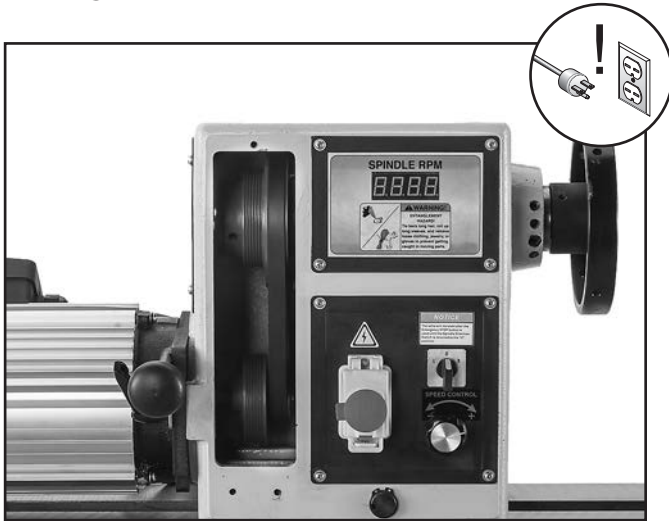

Figure 62. Belt access panel removed.
2. Open the front belt access panel, as shown in **Figure 62**.